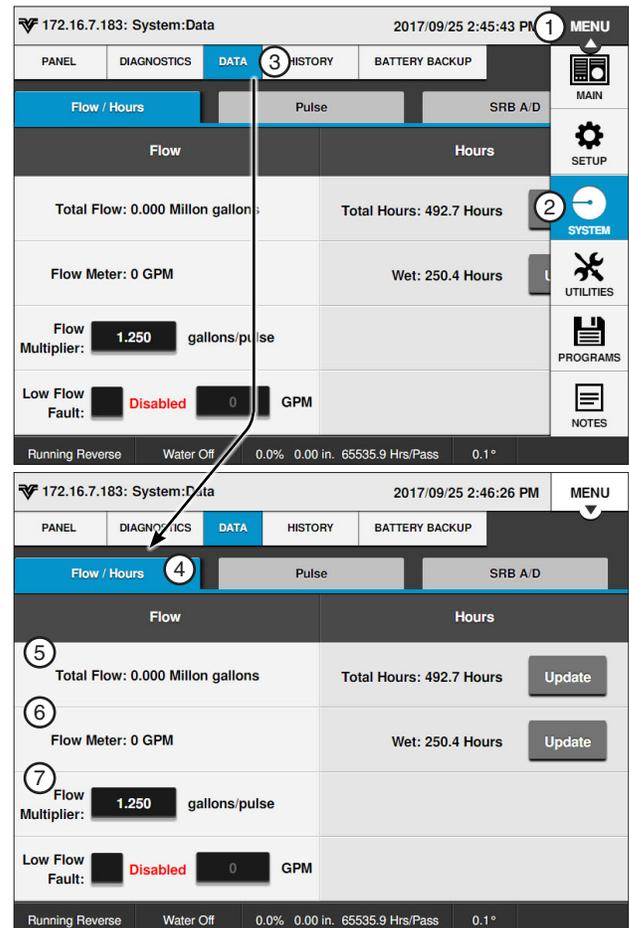

Figure 57-1 1. Menu 5. Total Flow
The Data option is used to review the machine's Flow/Hours, Pulse and SRB A/D information collected by the control panel. Push Menu, System and Data. Refer to Figure 57-1.
Push **Menu**, **System**, **Data** and **Flow/Hours** to display the Flow/Hours screen. Refer to Figure 57-1.
1. Select the **Flow Multiplier** field. Refer to Figure 57-1.